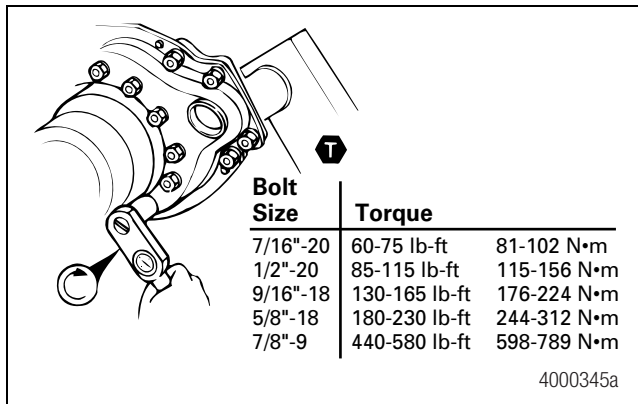

Figure 4.4
- Tighten all spider bolts to the correct torque. Figure 4.4.
- If the camshaft bracket has been removed, install the chamber bracket seal and bracket onto the spider. Tighten the capscrews to the correct torque. Figure 4.4.